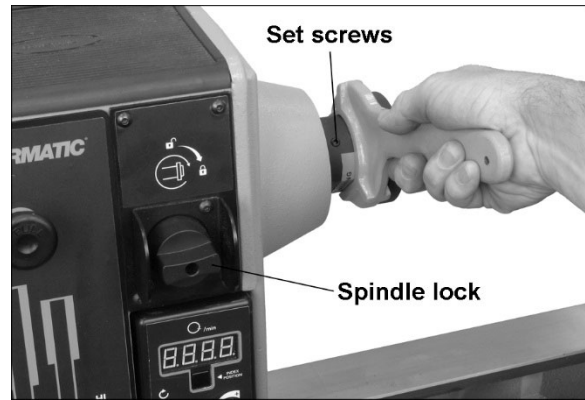

Figure 8-8: faceplate
3. Rotate spindle lock switch (Figure 8-8) and rotate handwheel slightly until lock engages with spindle.
WARNING If at any time you will be **reversing spindle rotation**, make sure the two set screws in the face plate are tight! One of these is shown in Figure 8-8. Failure to do this may cause face plate to loosen from headstock spindle.
5. To **remove** face plate, loosen the two socket set screws (Figure 8-8). Engage spindle lock switch and turn face plate counter-clockwise with face plate wrench, as shown.
WARNING When turning with a face plate, make sure both set screws on the face plate are tight (see Figure 8-8) before reversing spindle. Failure to comply may cause face plate to spin loose from spindle.